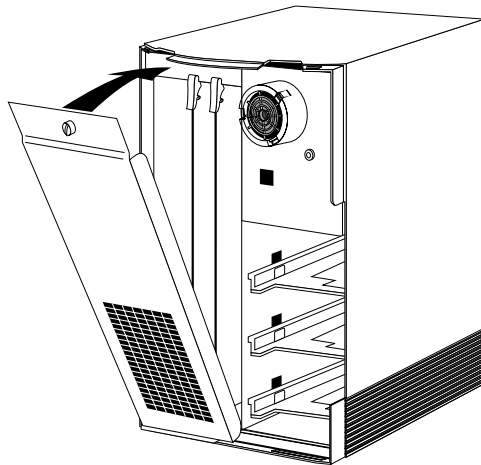

Figure 6-18 Tilting the Metal Panel Up to the Indigo
- Tilt the metal panel back up to the Indigo chassis, as shown in Figure 6-18.